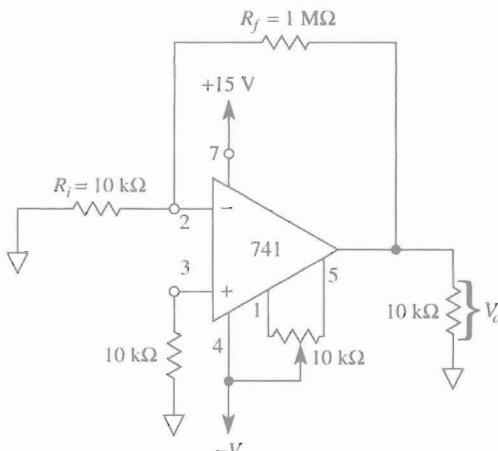

FIGURE 9-9 Circuit for Example 9-6.
A 741 op amp in the circuit of Fig. 9-9 has the following drift specifications. As temperature changes from 25°C to 75°C, I_{os} changes by a maximum of 0.1 nA/°C and V_{io} changes by a maximum of 20 μ V/°C. Assume that V_o has been zeroed at 25°C and then the surrounding temperature is raised to 75°C. Find the maximum error in output voltage due to drift in (a) V_{io} ; (b) I_{os} .
- 9-13. In Fig. 9-9, V_{io} changes by $\pm 0.5 \text{ mV}$ when the temperature changes by 50°C . What is the change in V_o due to the change in V_{io} ?
- 9-14. I_{os} changes by $\pm 2 \text{ nA}$ in Fig. 9-9 for a temperature change of 50°C . What is the resulting change in V_o ?